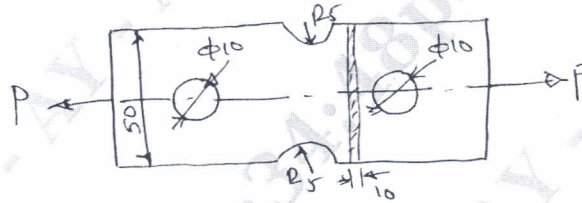

Fig.Q2(b)
- b. Determine safe load that can be carried by a bar of rectangular cross section in Fig.Q2(b) limiting the maximum stress to 130 MPa taking stress concentration into account.